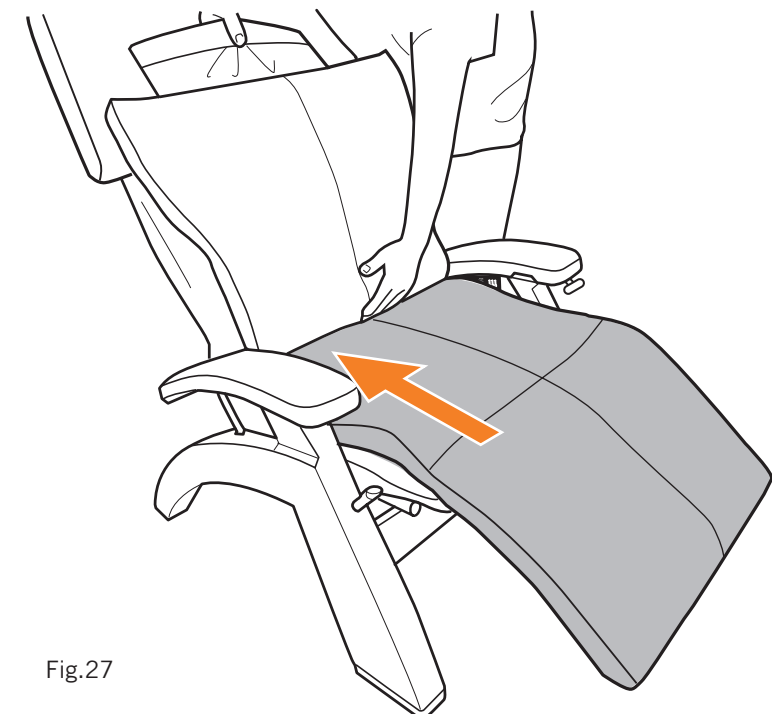

Fig.27
4. Lift up on the body pad to detach the seat hook and loop fasteners, pull it firmly up toward the seat, then press firmly down on the seat and leg area to secure it (Fig.27).